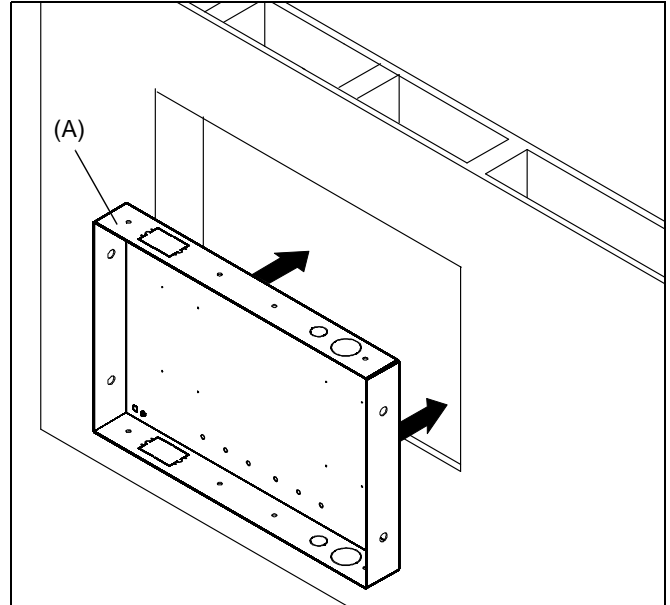

Figure 4
4. Center PAC-501 in opening and insert into opening. Align front of box with front face of wall. (See Figure 4)